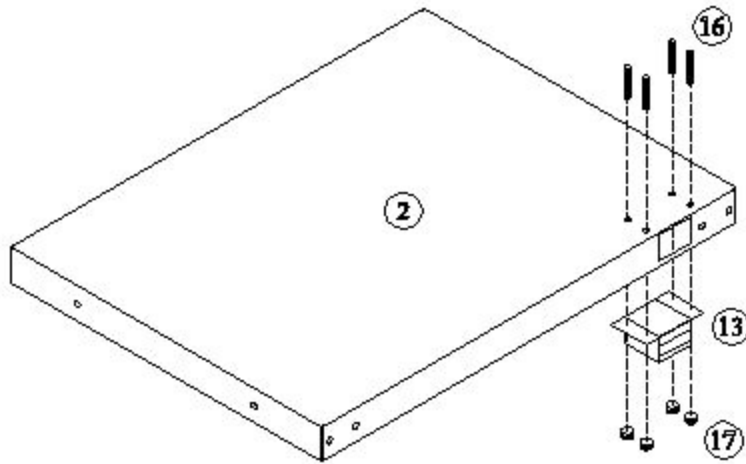

Figure 1
Attach the magnet (13) to middle shelf (2) with 4 pieces screws (16) and nut (17). As shown in Figure 1